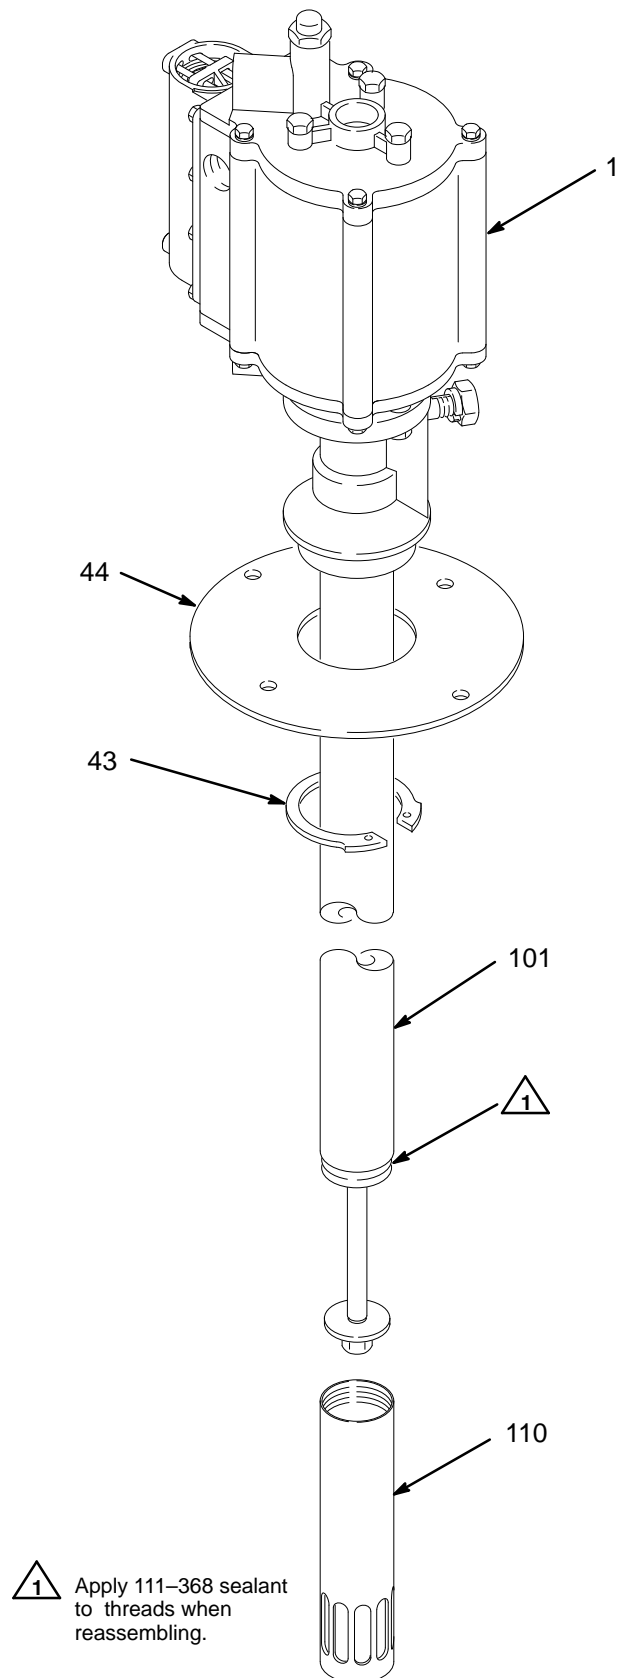

Fig. 5
2. Remove the retaining ring (43) and slide the mounting plate (44) off the pump. See Fig. 5.
4. Use a pipe wrench on the lower part of the outlet housing (18) to loosen the air motor (1) from the cylinder (101). See Fig. 5.
4. Apply thread sealant (111–368*) and screw the intake cylinder (110) onto the pump cylinder (101). See Fig. 5.
5. Remove the pump from the vise. Reinstall the mounting plate (44) and secure with the retaining ring (43).